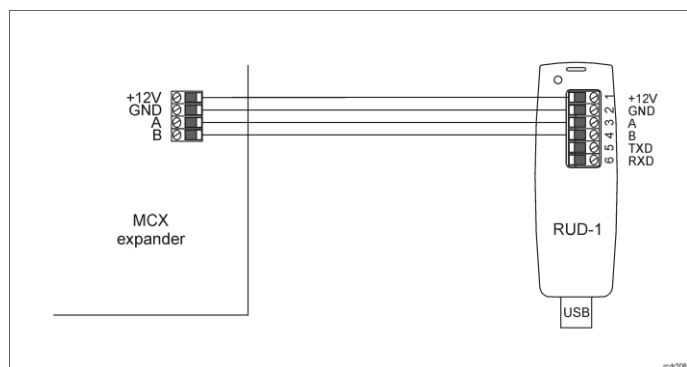

Fig. 1 Connection of the expander to RUD-1 interface
1. Connect the device to RUD-1 interface (fig. 1) and connect the RUD-1 to computer's USB port.